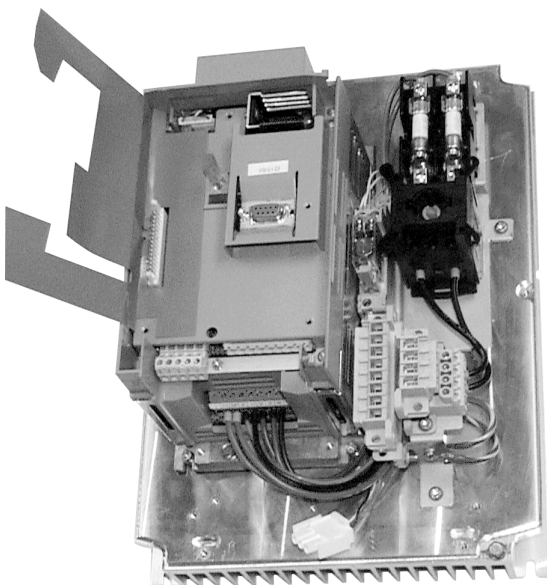

Figure 9: Installing an Option Card
2. Follow the installation directions in the instruction bulletin supplied with the option card. Refer to Figure 9.